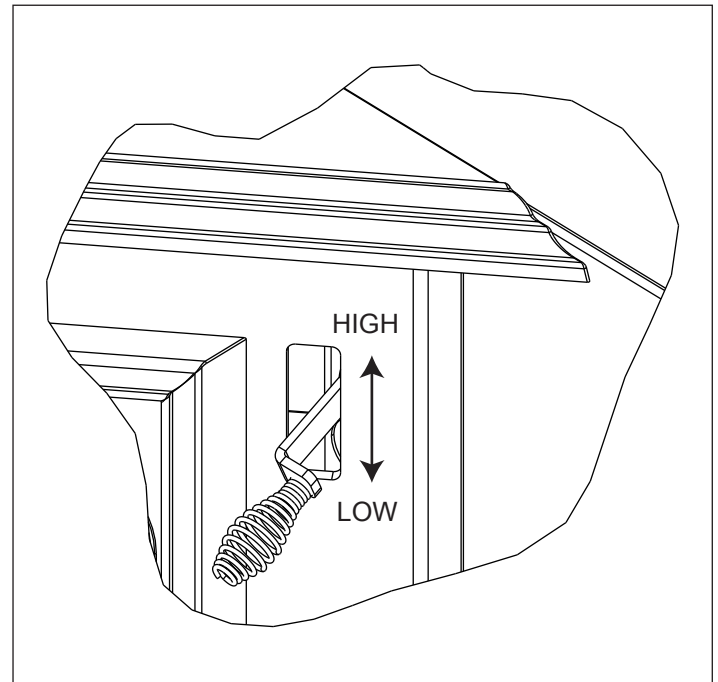

Figure 12.1 Air Control
- When the control is raised all the way up it is on the High setting and when pushed all the way down it is on the Low setting. **Figure 12.1.**
2. Follow these burn rate instructions below and refer to **Figure 12.1**